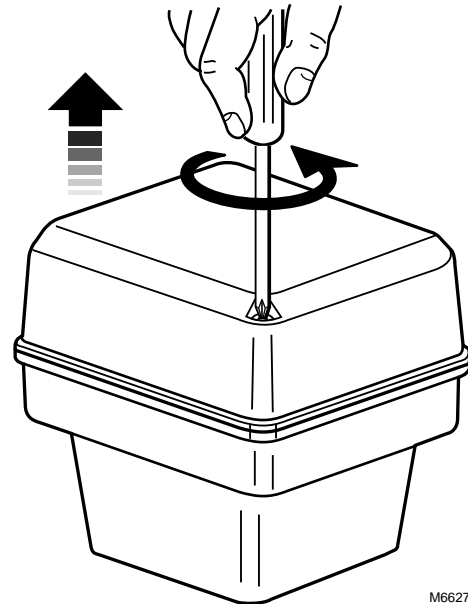

Fig. 4. Removing ML7425 cover.
6. Remove the cover from the actuator, using a Phillips or crosspoint screwdriver. See Fig. 4.